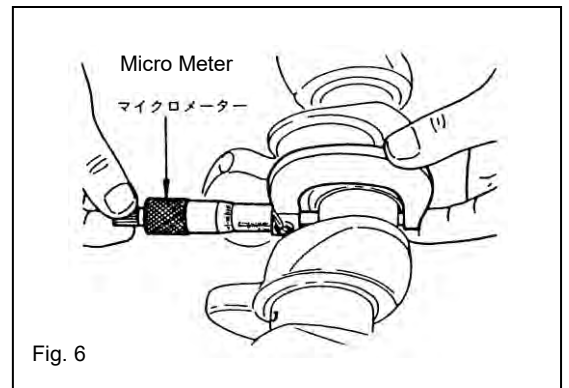

Fig. 6
3.5 Please refer to Figures 6 and 7 when measuring the crank pin.